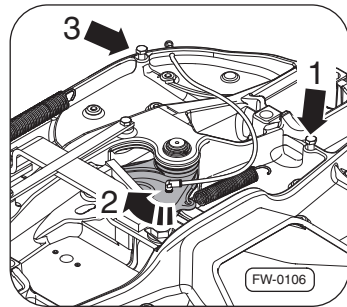

Fig. 30 · Unhook the spring
2. Unhook the spring from the coupler jaw Fig. 30, –arrow 1–.